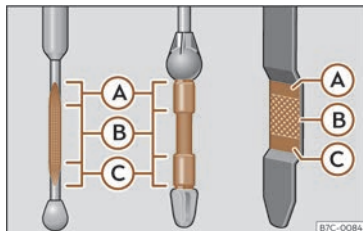

Fig. 228 Engine oil dipstick.
- Then pull it out again and check the oil level >>> Fig. 228. Top up with engine oil if necessary.
- When the oil level reaches at least zone >>> **Fig. 228 B**, carefully screw on the engine oil filler cap >>> .